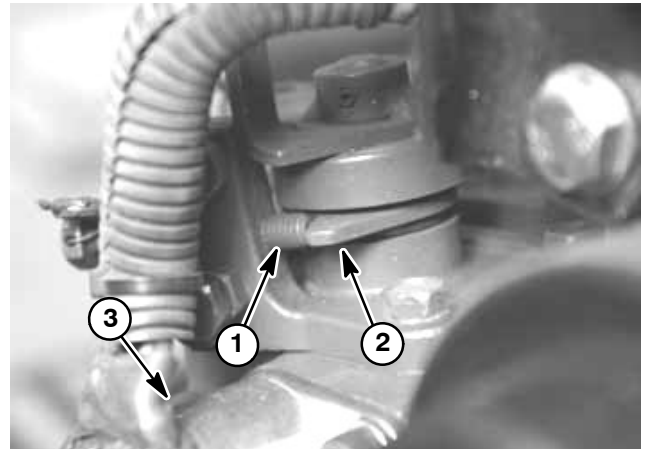

Figure 2
2. Check position of the engine speed control lever on fuel injection pump (Fig. 2). The speed control lever should be contacting the high speed screw when the throttle control lever is in the **FAST** position.